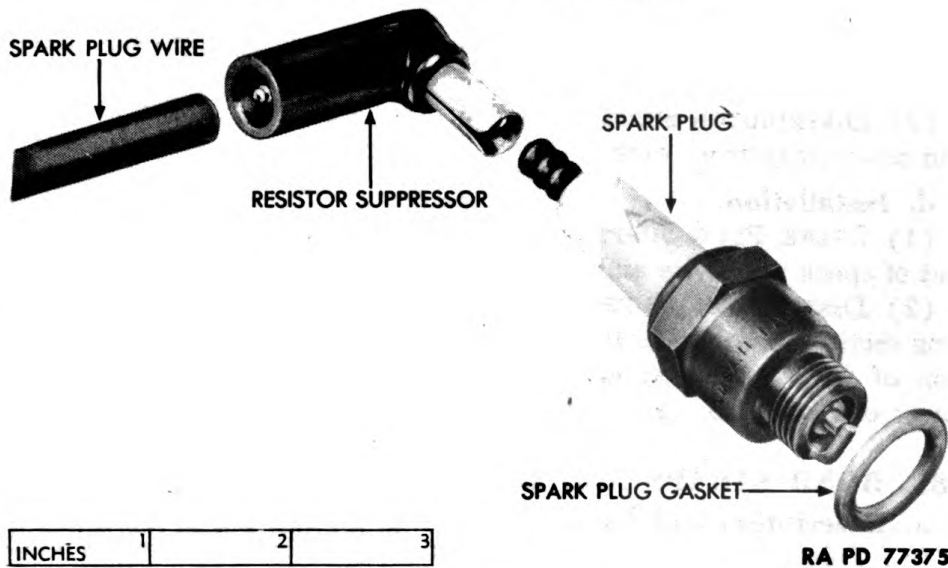

Figure 118 – Spark Plug Resistor Suppressor Installation
(1) **DESCRIPTION.** Seven resistor suppressors are used, one on top of each spark plug (fig. 118). The other suppressor is inserted in the coil-to-distributor high-tension wire about an inch above the distributor cap (fig. 51). Their function is to suppress radio interference.
(1) **SPARK PLUG SUPPRESSOR** (fig. 118). Pull suppressor from spark plug and screw suppressor from spark plug wire.
(1) **SPARK PLUG SUPPRESSOR** (fig. 118). Screw suppressor onto end of spark plug wire and push suppressor onto spark plug.